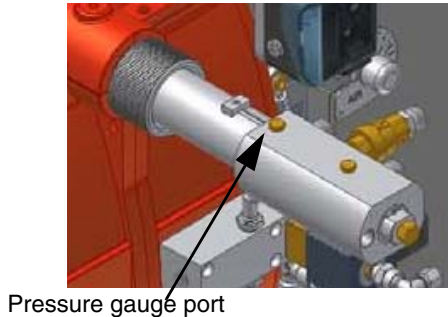

Fig. 21
- 10 the nozzle supply pressure is already factory-set and must not be changed. Only if necessary, adjust the supply pressure as follows (see related paragraph); insert a pressure gauge into the port shown on Fig. 21 and act on the pump adjusting screw **VR** (see Fig. 20) as to get the nozzle pressure at 25bar (Fluidics nozzles - see diagram on page 18).